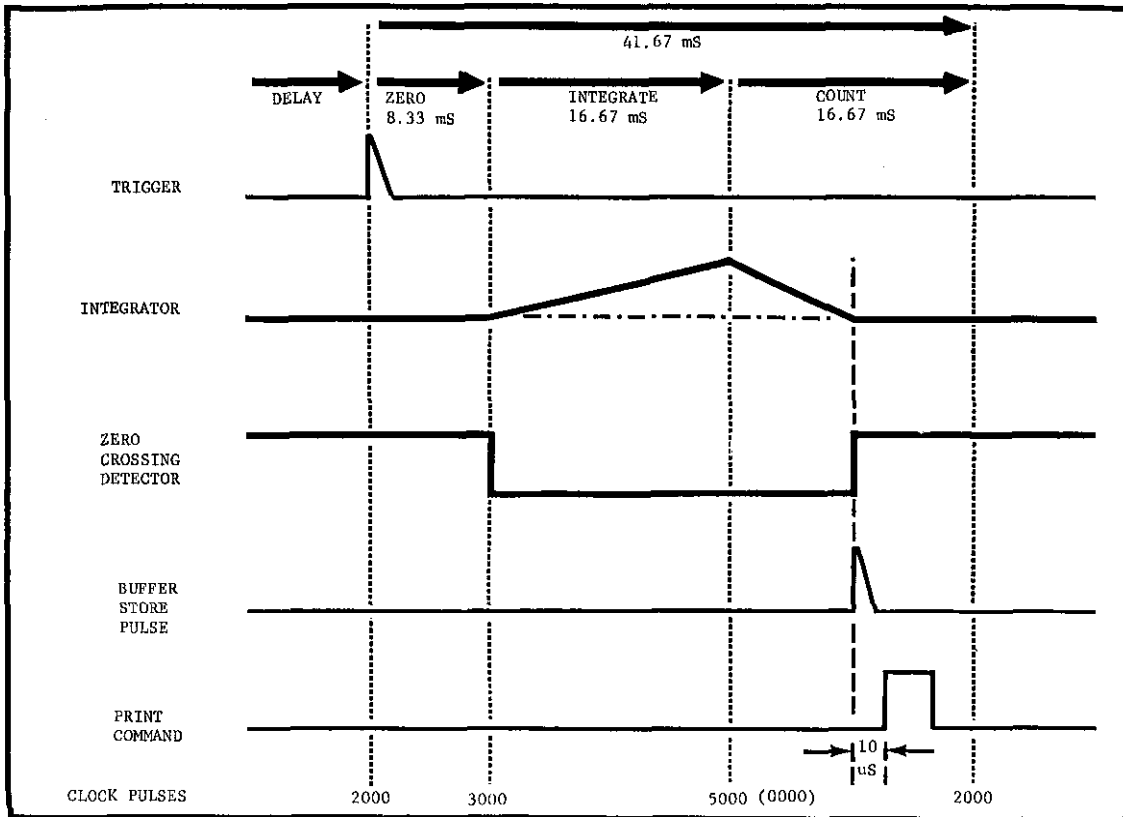
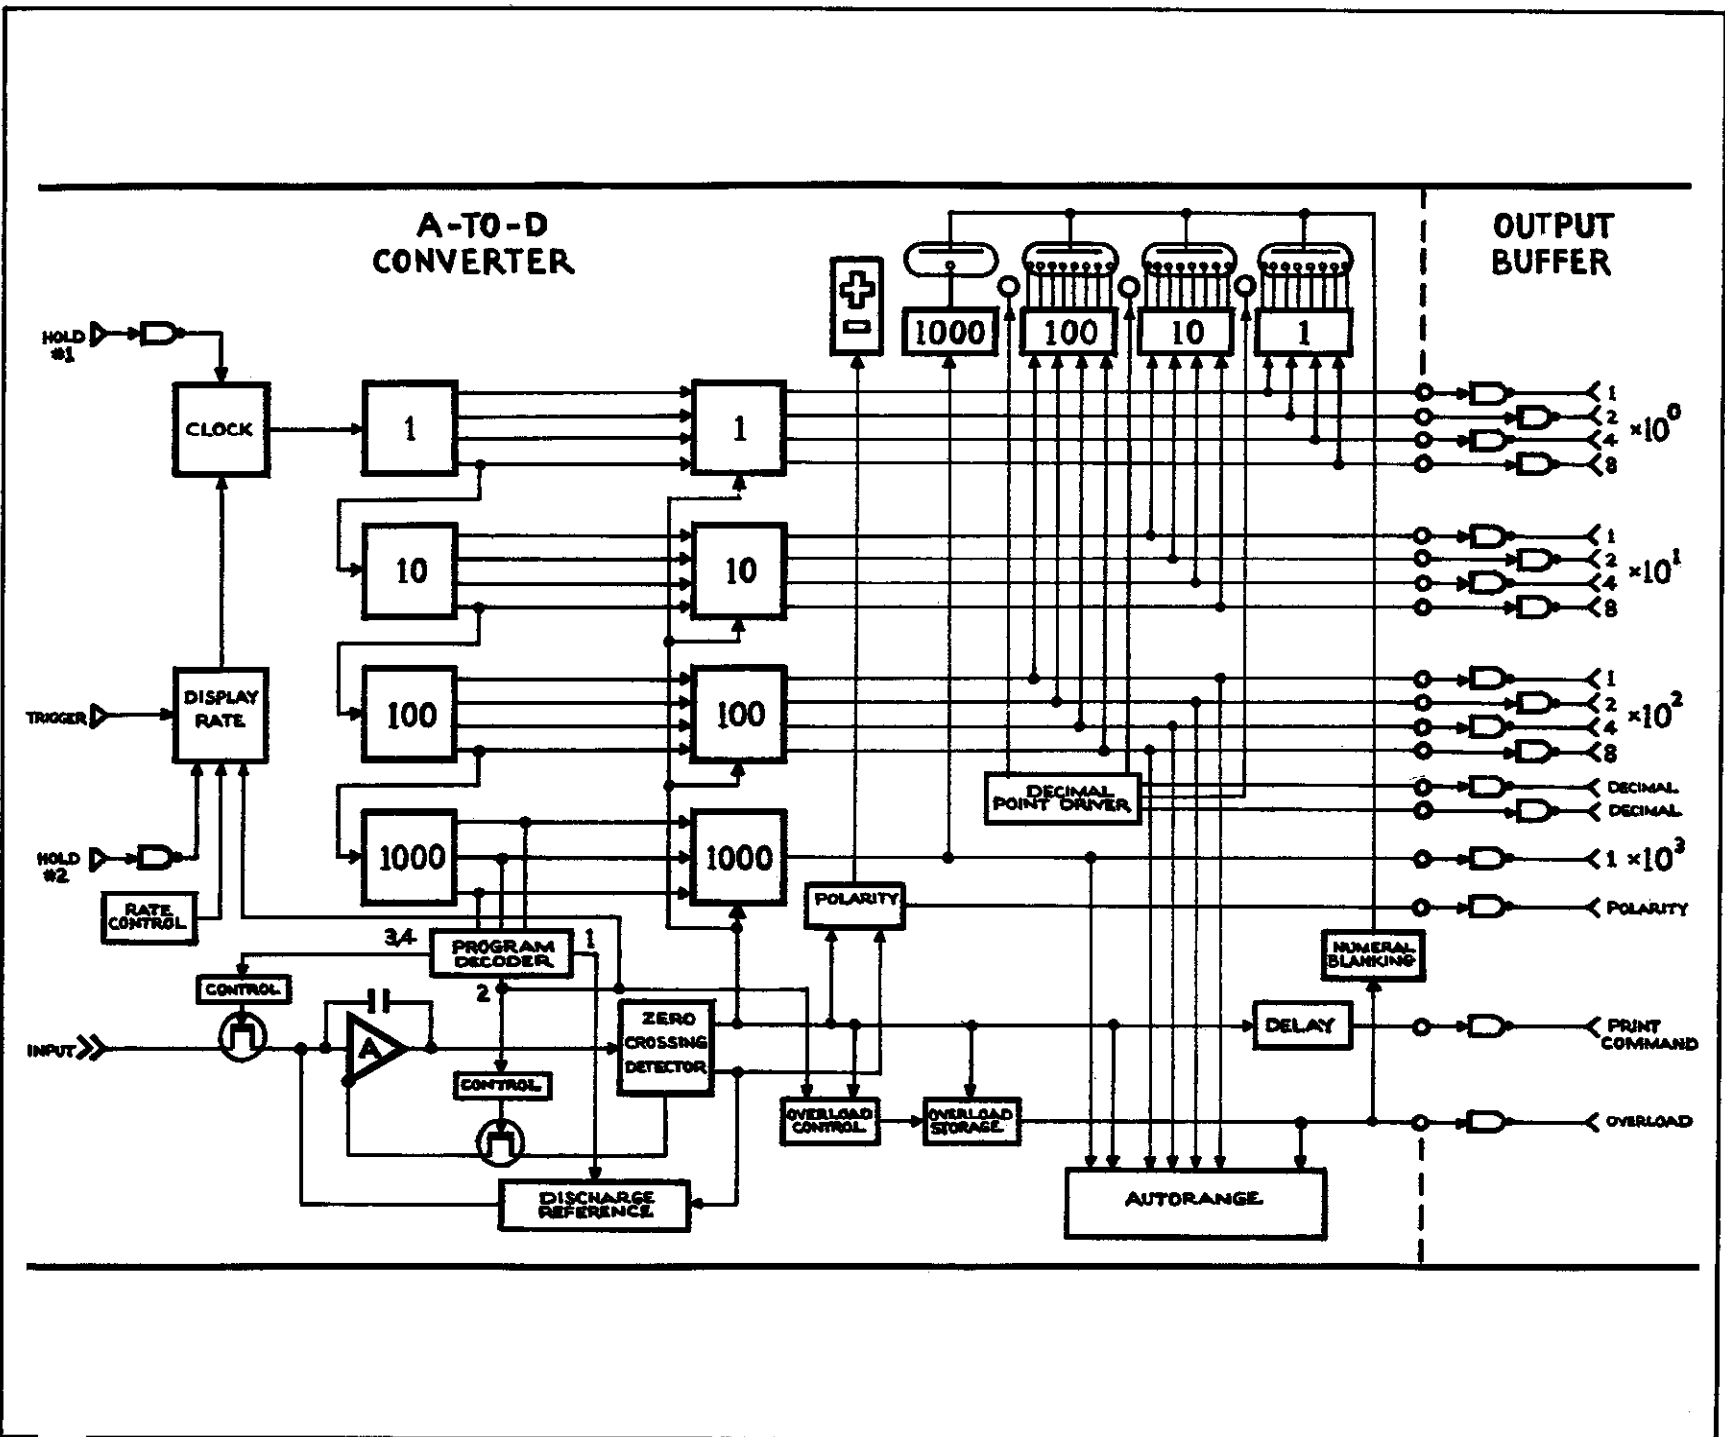

FIGURE 8. Timing Diagram.
FIGURE 13. A-to-D Converter Diagram.
a. General. A detailed block diagram of the A/D converter is shown in Figure 13. The analog-to-digital converter operates using a dual slope integration technique which has inherent line frequency noise rejection. The analog signal is applied to the integrator for one complete line frequency cycle. The analog signal is then removed from the integrator input. The voltage on the integrator is then driven to zero to complete the voltage-to-time conversion. The time interval to reach a "Zero Crossing" is counted and displayed on the "Readout" in proportion to the original analog signal. The sequence is then repeated for a second reading. A Timing Diagram is shown in Figure 8.